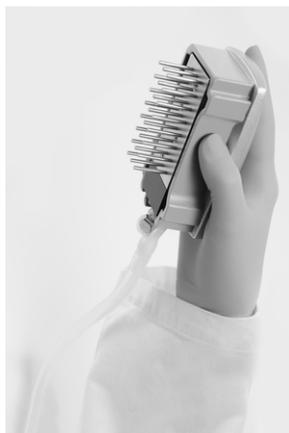

Figure 3. Illustration of the vacuum tool raised to beyond 90° vertical.
9. **Raise the vacuum tool up and back, beyond 90° vertical, for 5 seconds to drain liquid from the filter probes (Figure 3).**
- 14. Raise the vacuum tool up and back, beyond 90° vertical, for 5 seconds to drain liquid from the filter probes (Figure 3).**
- 15. Close the vacuum switch on the tool (Off), and place the vacuum tool in the Parking (P) position.**